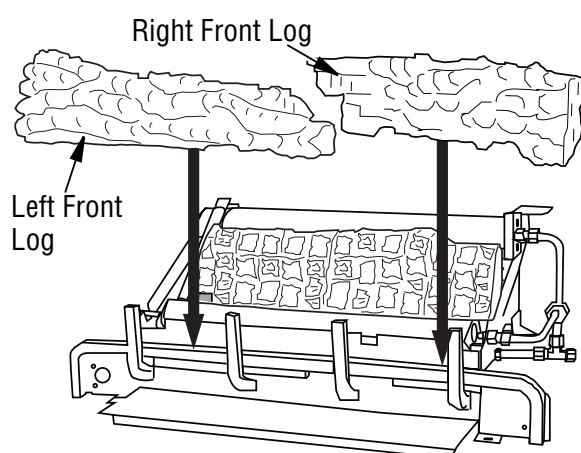

Figure 30 - Installing Left/Right Front Logs
- Place front left (18" D-064, 24" D-057 & 30" D-038) and front right (18" D-065, 24" D-058 & 30" D-039) logs as shown in **Figure 30**.